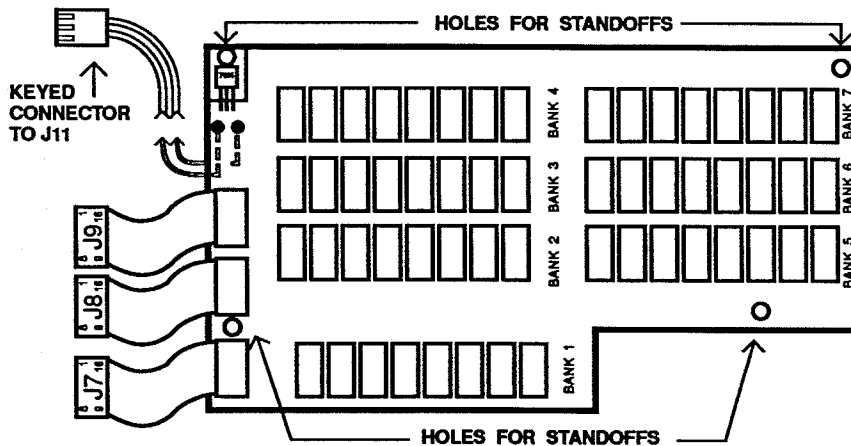

Figure 4-1. Memory Expansion Board
1. Remove the four screws on the base card. (Refer to Figure 4.1 for the location of the screws.)